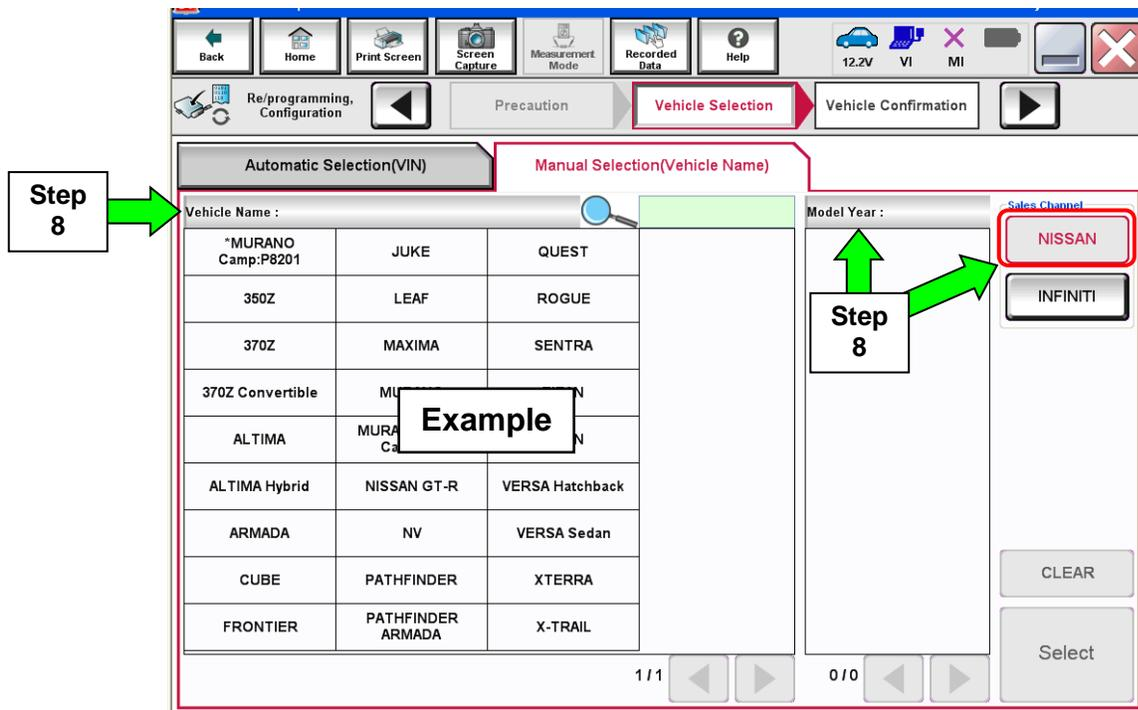

Figure 4
- If the screen in Figure 4 does not display, skip to step 9.